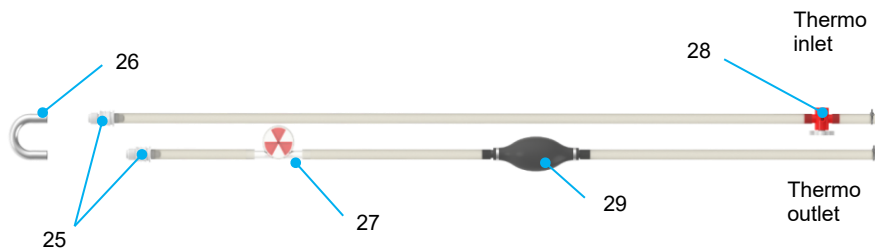

Figure 7 Thermo tubing
The Thermo unit maintains the temperature of the circulated perfusion solution using Peltier elements. Depending on the set temperature, these elements cool or heat the internal water-circuit using thermoelectric effect. To transfer the temperature of the internal water circuit to the perfusion solution, the Thermo unit is connected via silicone tubing to the heat exchanger ports of both oxygenators, see Figure 5 and Figure 7. The outlet port of the Thermo unit is connected to the “water in” port of the heat exchanger and the inlet port of the Thermo unit is connected to the “water out” port of the heat exchanger.
- Place the thermo tubing (Figure 7) with the water tubing coupler (item 26) as low as possible. Ensure that during filling and de-airing (section 2.3.1), the thermo unit inlet and outlet (Figure 7, items 21 and 22) are at the highest point, so air bubbles move toward the thermo unit.
- Repeatedly squeeze the de-airing balloon (Figure 7, item 29) to push out as much air as possible from the thermo tubing.
- Connect the thermo tubing to the oxygenator (Figure 13) using the water connectors (Figure 7, item 25). The oxygenator has two thermo tubing connectors, and either connector can be used for the inlet or outlet. Ensure one tube is connected to the thermo inlet and one to the thermo outlet (see Figure 7).